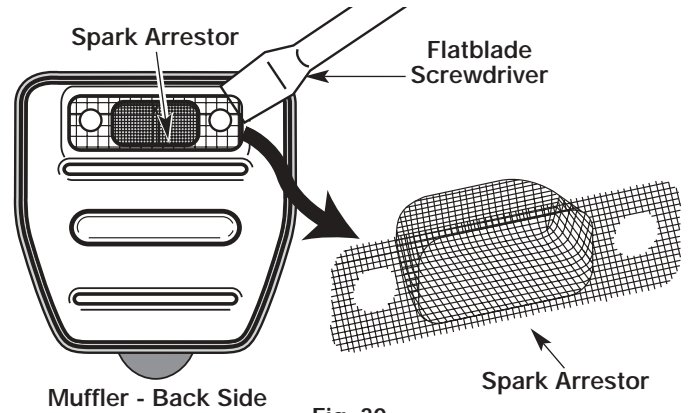

Fig. 30
4. Using a small flatblade screwdriver, carefully pry up the spark arrestor from the recessed hole (Fig. 30). Remove the spark arrestor from the muffler.
5. Clean the spark arrestor with a wire brush. Replace it if it is damaged or if it is impossible to clean thoroughly (Fig. 30).